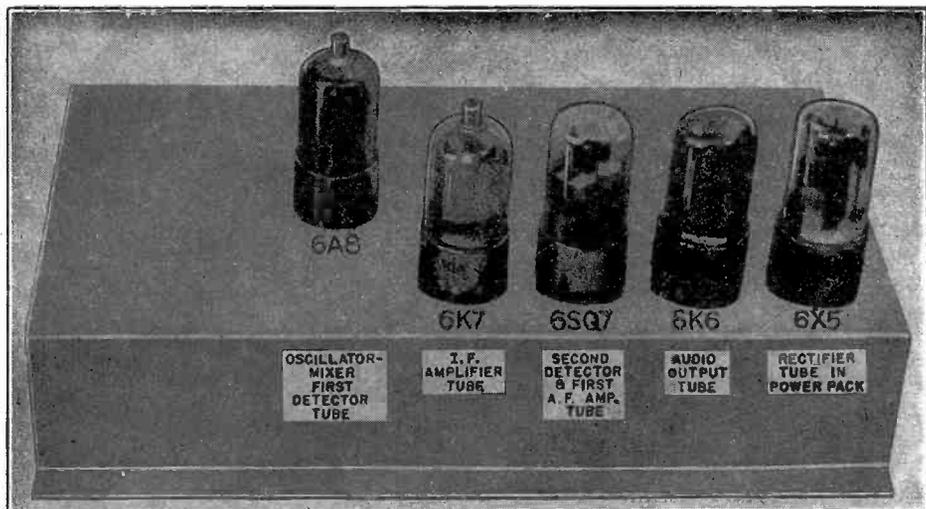

FIG. 9. This is how the back of our superheterodyne receiver chassis would look if only the tubes were visible.
**Socket Markings.** The number of the tube intended for each socket has been clearly printed on the chassis base of our receiver, in the manner shown in Fig. 9. This illustration shows how the set would appear from the rear if only the tubes were above the chassis. The functions of the tubes are indicated by notes on the illustration.